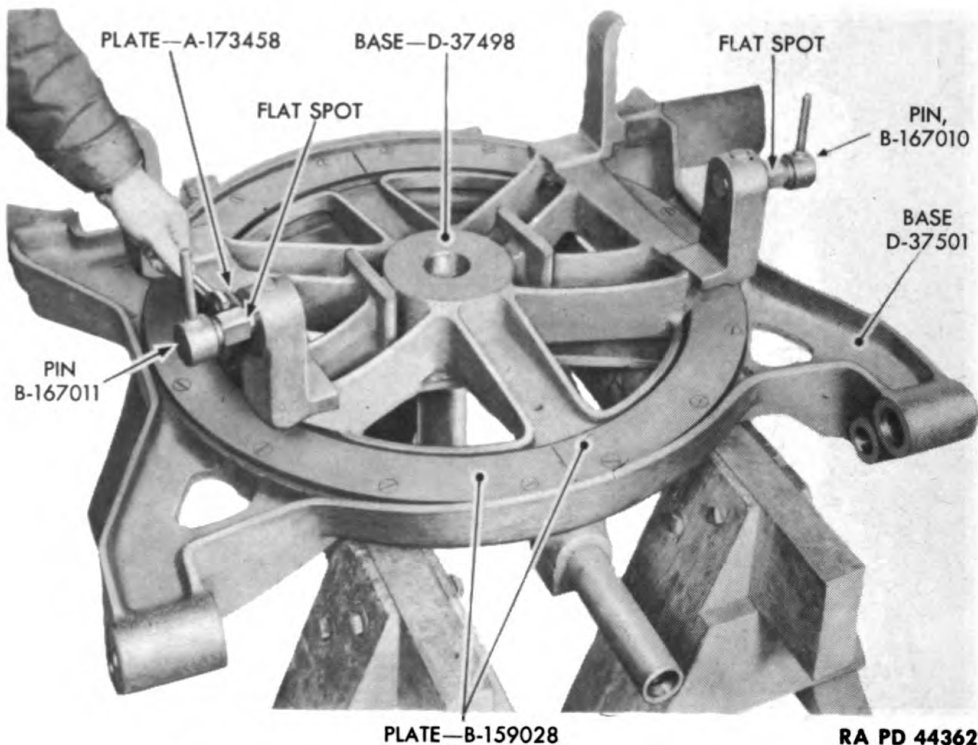

Figure 335—Installing Trail Locking Pins
(5) Install the halves of trail base retaining plate on trail base; then install cap screws through plate and fasten with lock washers and nuts, but do not tighten at this time.
b. Install Trail Locking Pins (fig. 335). There are two trail locking pins, one on right side of trail base and one on left side. Trail locking pins are in locked position when handle points down, and this makes the two pins noninterchangeable. Flat spot on trail locking pin must be away from locking pin plate when the pin is in locked position. Install two trail locking pins in trail base; then install two locking pin plates and fasten with two cap screws and lock washers.